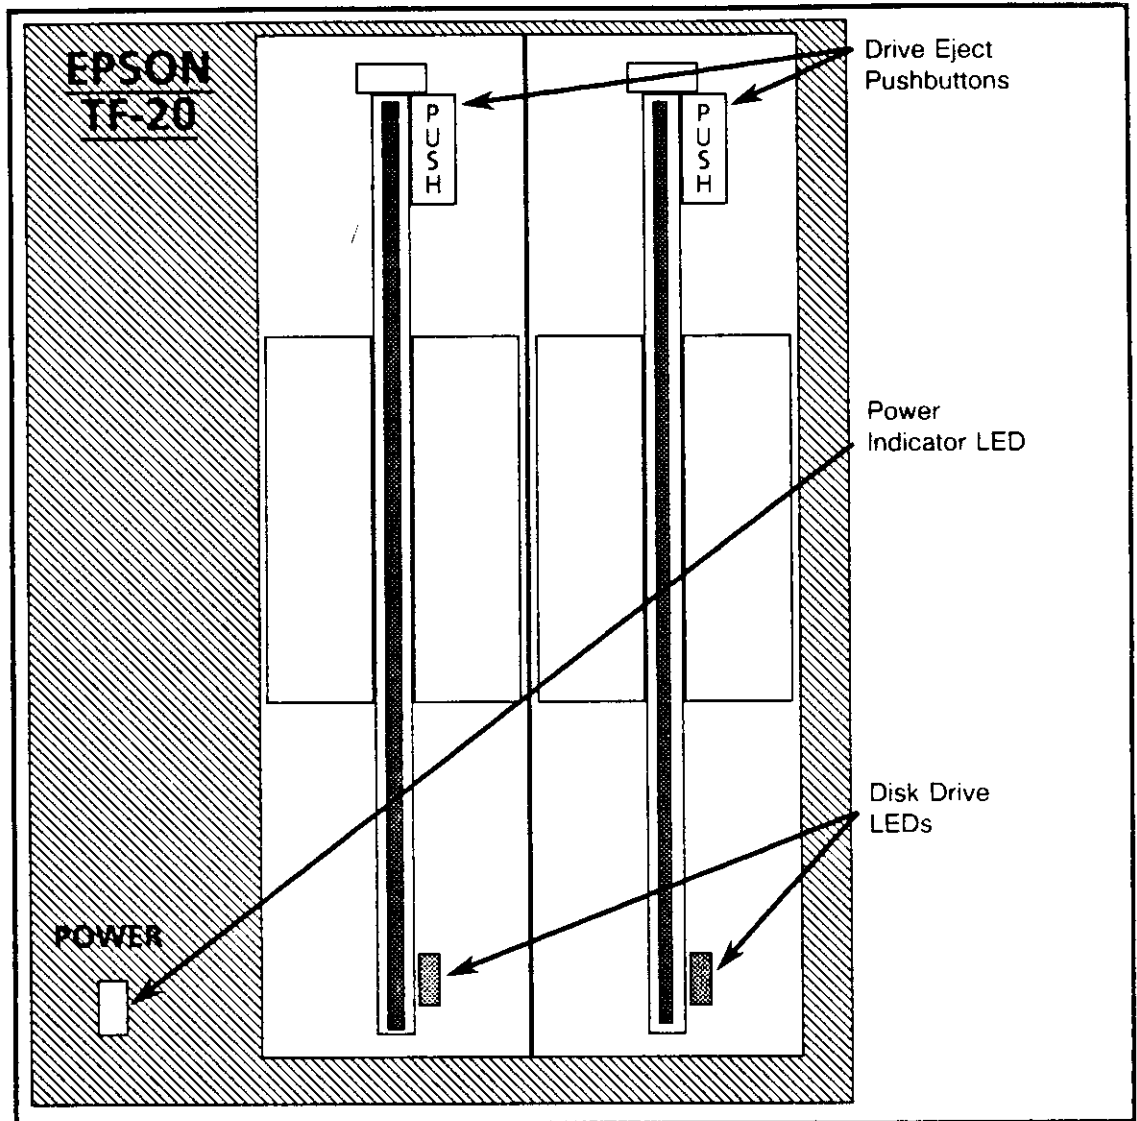
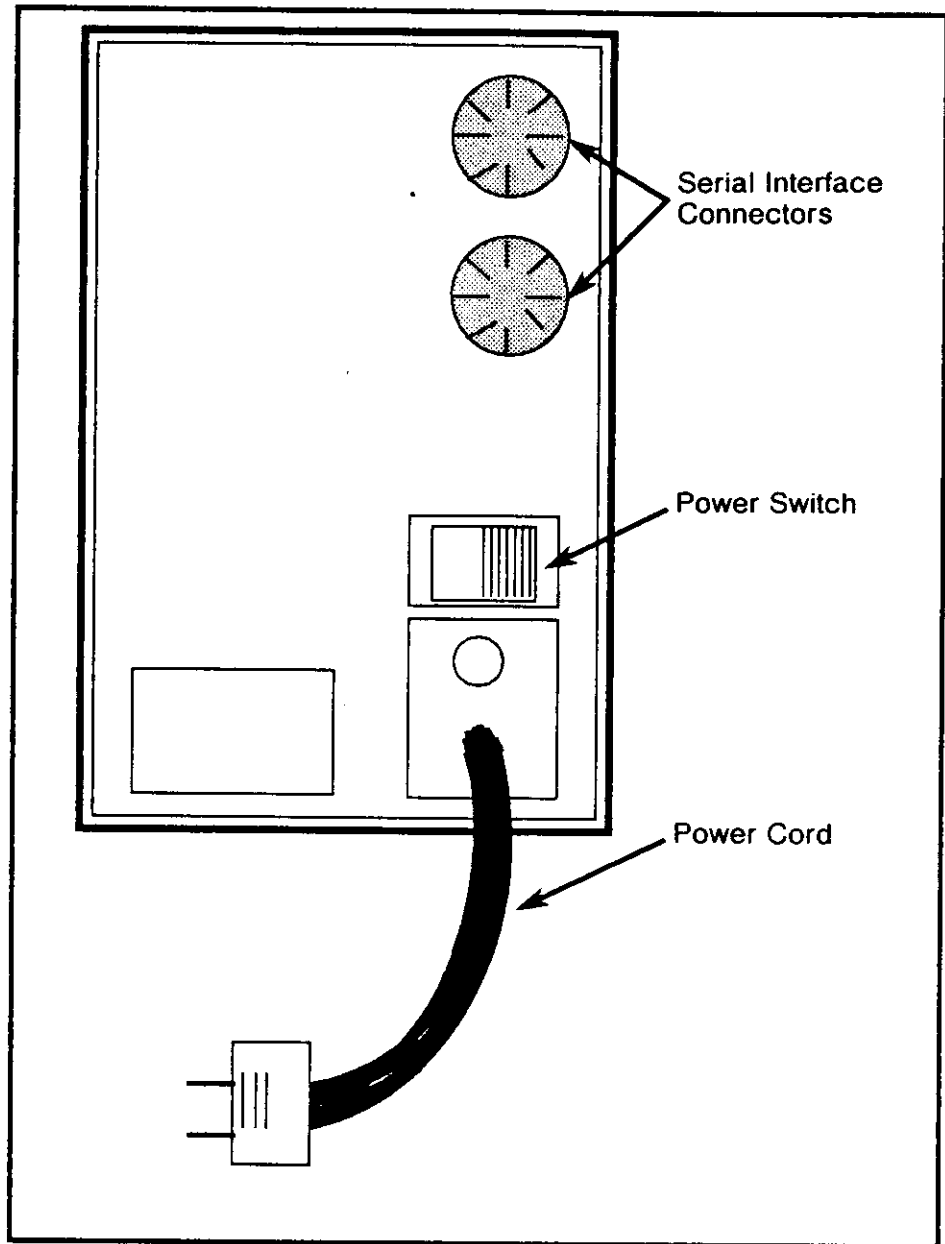

Figure 2.5 PMP Disk Drive Front
Figure 2.6 PMP Disk Drive Rear
2.1.3.2 The optional PMP disk drive is an EPSON TF-20. It is a separate unit which contains two 5¼-inch floppy disk drives, a controller card, and supporting circuitry. The power indicator LED, disk drive LEDs, and drive eject pushbuttons are located on the front of the unit (Figure 2.5). The power cord, power switch, and two serial interface connectors are located on the rear of the unit (Figure 2.6).